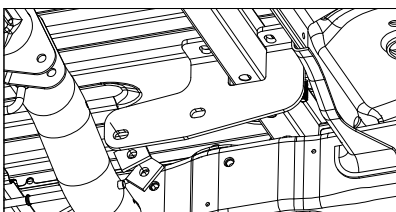
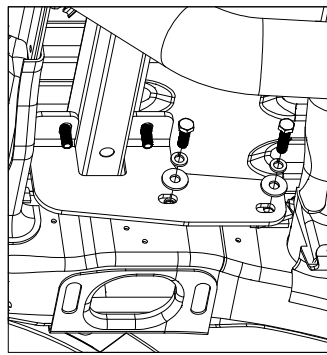

Figure B2: View looking up at passenger side frame.
Figure B3: View looking up at driver side frame.
3. **Install the front brackets.** Locate the two front brackets, four round hole rectangle washers, two M12 x 45 mm hex head bolts (longer), two M12 x 35mm hex head bolts (shorter), four 1/2" split lock washers, and four 1/2" flat washers. Due to curvature of the frame the forward hole in each front bracket will need to be supported with two round hole rectangle washers. See Figure B2. Using a 1/2" lock washer and 1/2" flat washer, Thread the longer (45mm) M12 hex head bolt into the frame through the forward holes in the brackets and through both round hole rectangle washers. Again, Using a 1/2" lock washer and 1/2" flat washer, Thread the shorter (35mm) M12 hex head bolt into the frame through the remaining holes. See Figures B3 and B4. Do not fully tighten at this time.